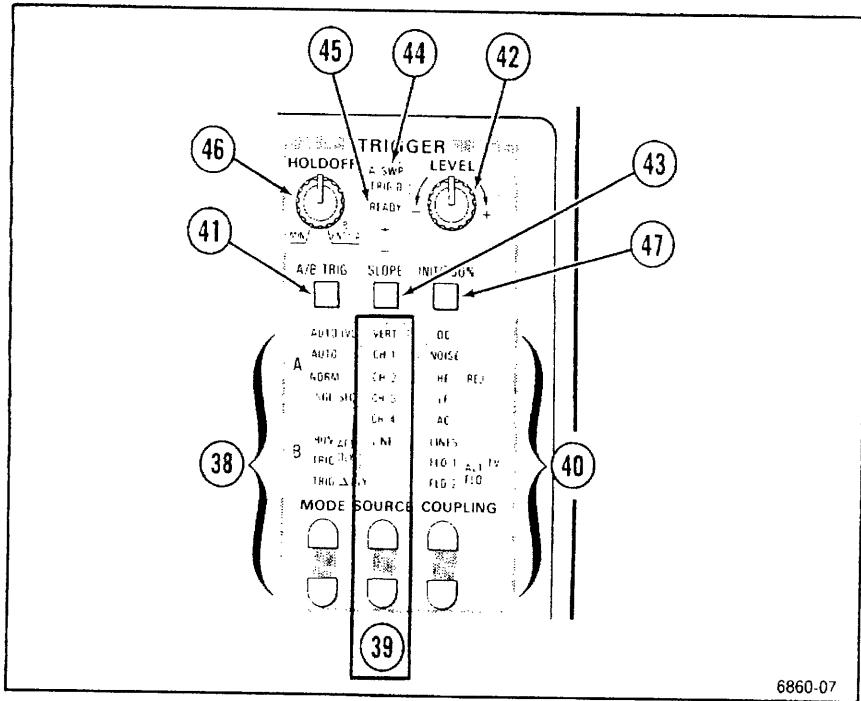

Figure 5-6. Trigger controls and indicators.
Refer to Figure 5-6 for the location of items 38 through 47.
- (38) **MODE Buttons and Indicators** Select the mode of either the A Trigger or the B Trigger. Pressing a button steps the MODE selection once; holding the button causes the MODE selection to step repeatedly. Indicators show the selected mode of either the A Trigger or the B Trigger according to the selected horizontal display mode and as directed by the A/B TRIG button.